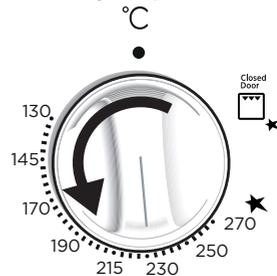

Fig. 4.2
The numbers printed on the control panel or on the knob (fig. 4.2) indicate the increasing oven temperature value (see table below). To regulate the temperature, set the knob to the chosen number. The "FAN ASSISTED GAS OVEN" column refers to the oven burner used in combination with the fan motor (forced convection cooking: only for the "fan assisted" models - models having also the position  or ), while the "GAS OVEN" column refers to the oven burner used in the normal convection mode (without fan motor). The ★ symbol close to the maximum position indicates that the electric ignition is incorporated into the knob (activated by the knob itself).
- 2 – Lightly press and turn the thermostat knob anti-clockwise to the maximum position  (fig. 4.2). Press the knob firmly until the burner lights.